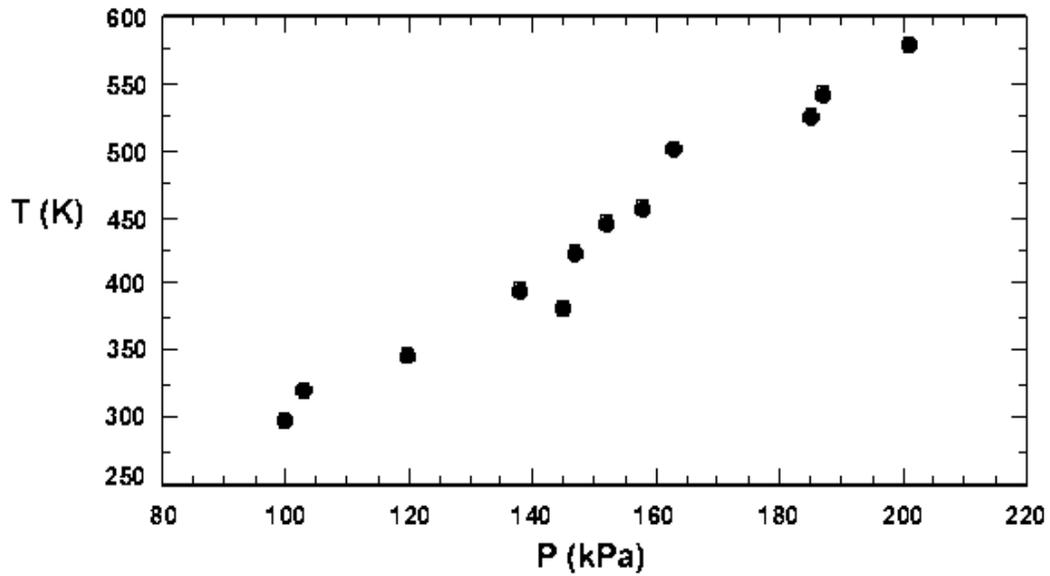
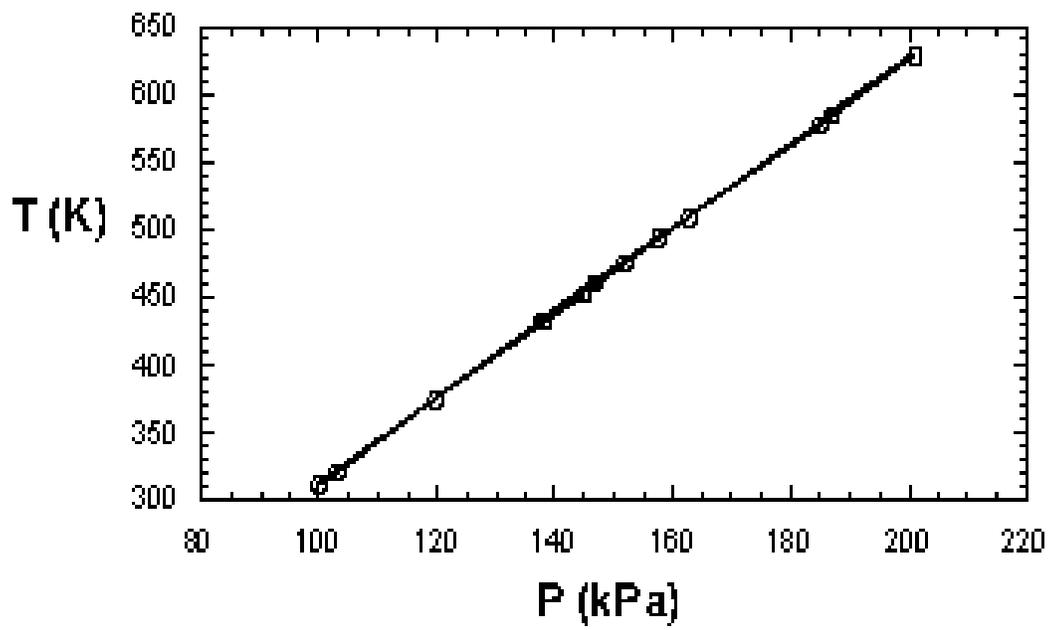

Figure A-1. Temperature versus pressure, as measured by the transducers.
Figure A-2. Temperature versus pressure, as calculated from the ideal gas equation.
This section analyses the results of the experiment. The experiment went as expected with no unusual events that would have introduced error. The voltages as measured for the pressure and temperature transducers appear in Table A-1 of the Appendix. Also included in the Appendix are the equations used for calibrating those voltages with the actual pressures and temperatures. These equations led to the values of pressure and temperature that are shown the third and fourth columns of Table A-1. From these values, a graph between temperature (K) and pressure (kPa) was created (Figure A-1). As can be seen from the graph, the relationship of temperature versus pressure is roughly linear. As part of this experiment, the theoretical values of temperature were calculated for each measured pressure value. In this calculation, which used the ideal gas equation, the volume and mass were assumed to be constant. These theoretical values of temperature are shown in the final column of Table A-1. From this final column arose Figure A-2, a graph of ideal temperature (K) versus pressure (kPa). As shown in this graph, the relationship between temperature and pressure is exactly linear.
A comparison between the graph showing measured data (Figure A-1) and the graph showing theoretical data (Figure A-2) reveals differences. In general, the measured
where T_{ref} equals the ice bath reference temperature (0°C), V equals the voltage (volts) measured across the thermocouple pair, and S equals the thermocouple constant, $42.4 \mu\text{V}/^{\circ}\text{C}$. Finally, column 5 presents the ideal values of temperature for the corresponding measured values of pressure. These ideal values arise from the ideal gas equation ($PV=mrt$). Figure A-1 shows the graph of temperature (K) versus pressure (kPa) for the measured case. Figure A-2 shows the graph of temperature versus pressure for the ideal case.